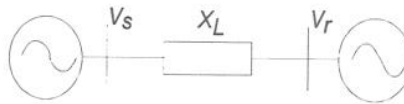

Fig Q5: A simple interconnected power system model
- (b) Figure Q5 shows a simple model of an interconnected power system. The voltage at the two ends are $V_s \angle \delta$ and $V_r \angle 0$ p.u. The line is modelled by a series inductance and expressed as X_L p.u.. The line transfers power with about 29% capacity margin.